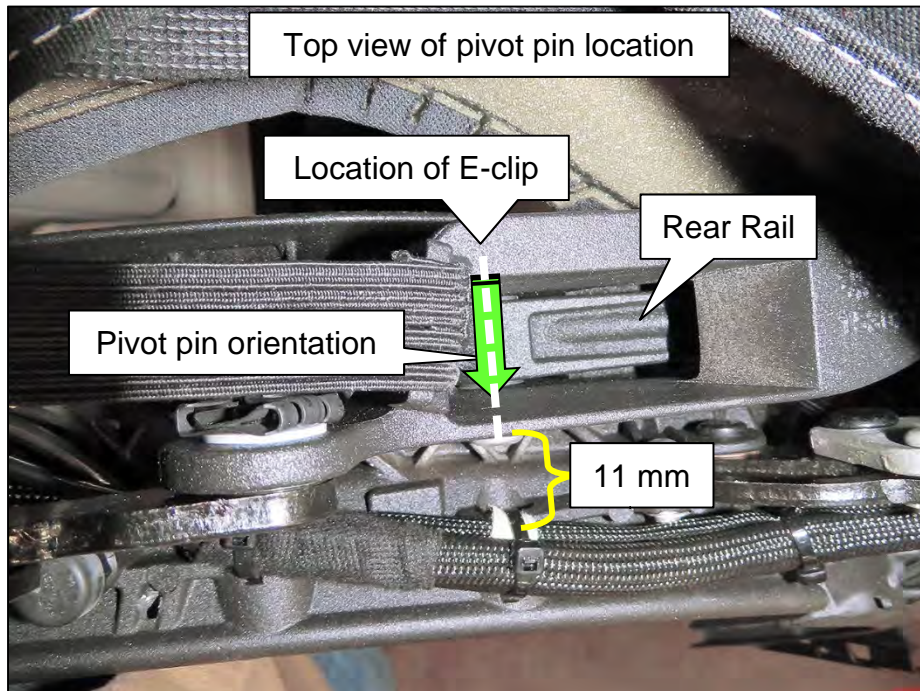

Figure 242
259. Remove the E-clip from the Soft Top Linkage Assembly to Rear Rail pivot pin (pivot pin), where shown in Figure 242.
- E-clip hidden in Figure 242.